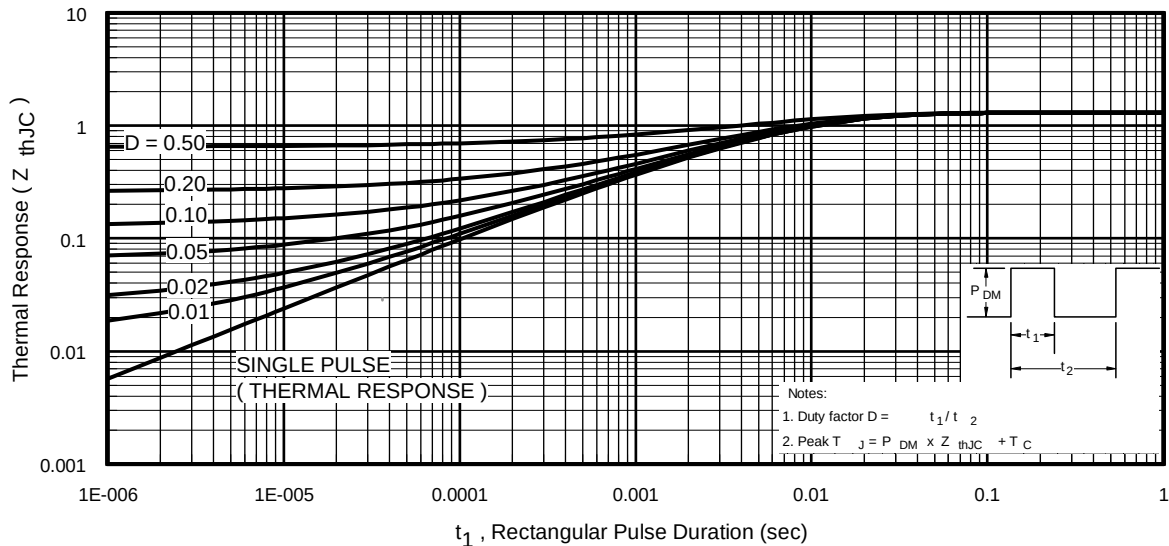
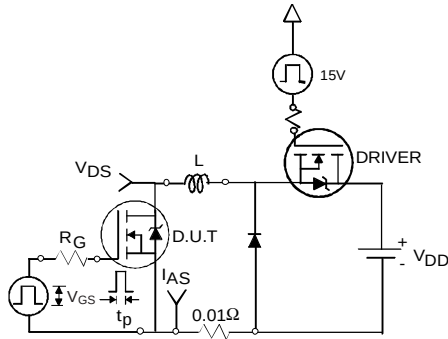

Fig 11. Maximum Effective Transient Thermal Impedance, Junction-to-Case
Fig 12a. Unclamped Inductive Test Circuit
3. Equation below based on circuit and waveforms shown in Figures 12a, 12b.
$Z_{thJC}(D, t_{av})$ = Transient thermal resistance, see figure 11)
- ① Repetitive rating; pulse width limited by max. junction temperature. (See fig. 11).
- ② Limited by T_{Jmax} , starting $T_J = 25^\circ C$, $L = 0.71mH$, $R_G = 25\Omega$, $I_{AS} = 23A$, $V_{GS} = 10V$. Part not recommended for use above this value.
- ③ $I_{SD} \leq 23A$, $di/dt \leq 400A/\mu s$, $V_{DD} \leq V_{(BR)DSS}$, $T_J \leq 175^\circ C$.
- ④ Pulse width $\leq 1.0ms$; duty cycle $\leq 2\%$.
- ⑤ C_{OSS} eff. is a fixed capacitance that gives the same charging time as C_{OSS} while V_{DS} is rising from 0 to 80% V_{DSS} .
- ⑥ Limited by T_{Jmax} , see Fig.12a, 12b, 15, 16 for typical repetitive avalanche performance.
- ⑦ This value determined from sample failure population. 100% tested to this value in production.
- ⑧ When mounted on 1" square PCB (FR-4 or G-10 Material). For recommended footprint and soldering techniques refer to application note #AN-994.